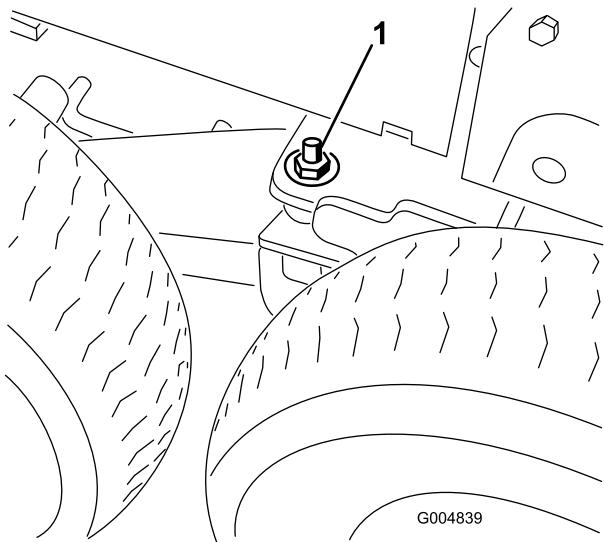

Figure 29
17. Remove the flat washer (1/2 inch) and nut (1/2 inch) installed on the stud on the bogie pivot (Figure 29).
23. Lower the floor jack until the front wheels support the frame. Install the flat washers (1/2 inch) and locknuts on the bogie pivot stud (Figure 29) and torque to 102 N·m (75 ft-lb).